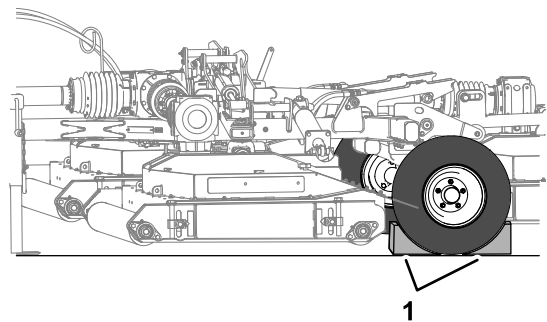

Figure 18
7. Chock both tires of the mower (Figure 18).